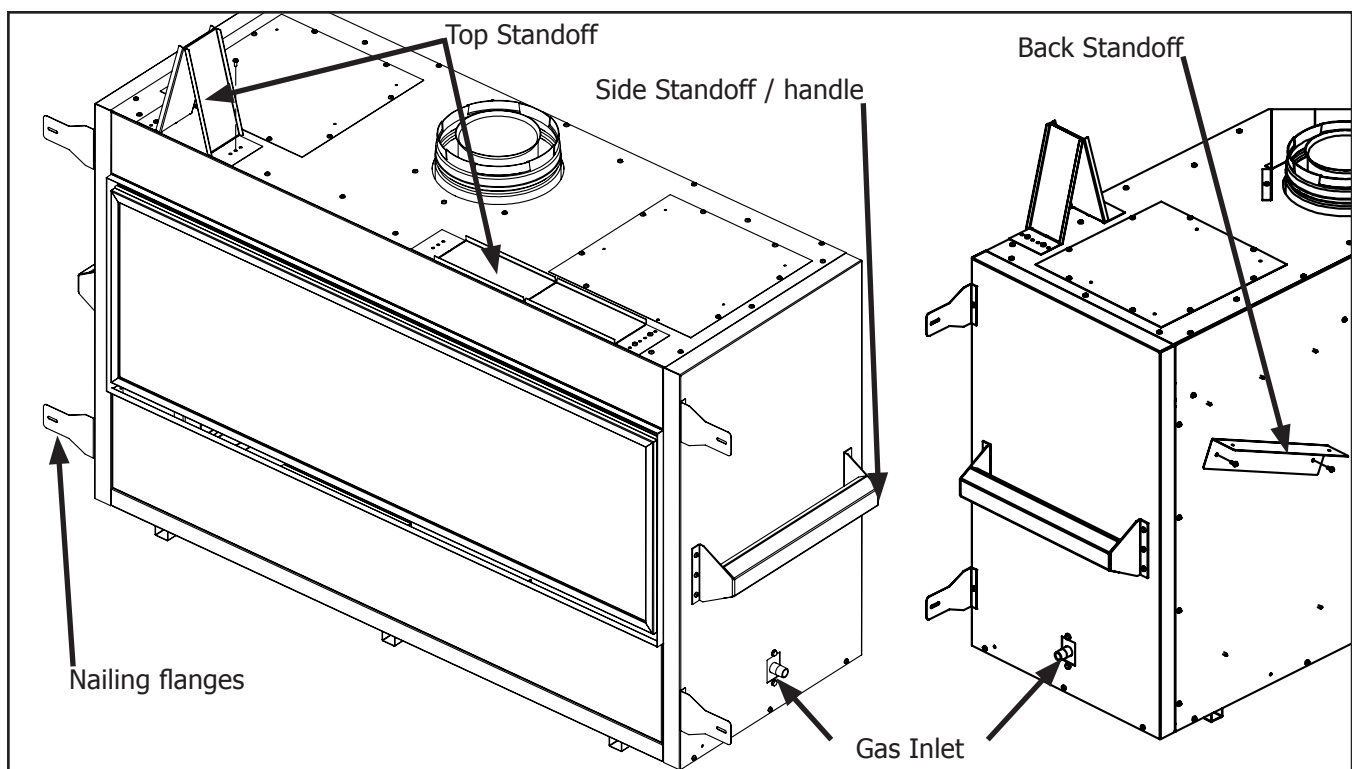

Figure 26: Fireplace Install Preparation
Take a minute to familiarize yourself with Figure 26 below.
- The top framing standoff will need to be folded up and secured on one side with a T-20 screw, This can be seen in Figure 26.